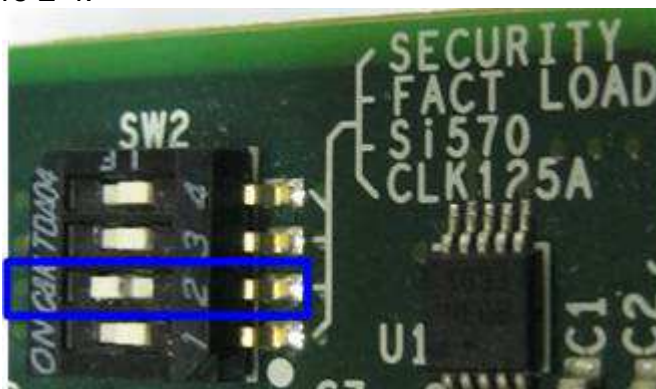

Figure 2-4 SW2 Enable Si570 clock source
- Enable clock programmable for CycloneV SX SoC board. Set bit2 of SW2 to ON position, as shown in Figure 2-4.